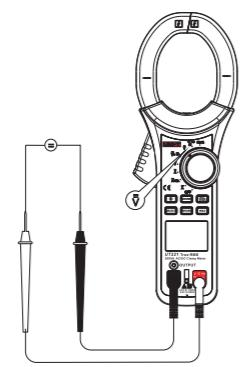

Figure 3
IX. Operation Instruction**1. DC voltage measurement (V) (See Figure 3)****(1) Insert test leads**